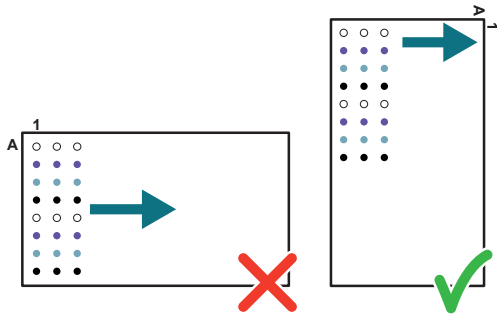

Figure 7. Rotating the Sample Reagent Plate
**NOTE:** Rotate the Sample Reagent Plate (384-well) 90 degrees clockwise to facilitate pipetting (shown to the right of Figure 7).